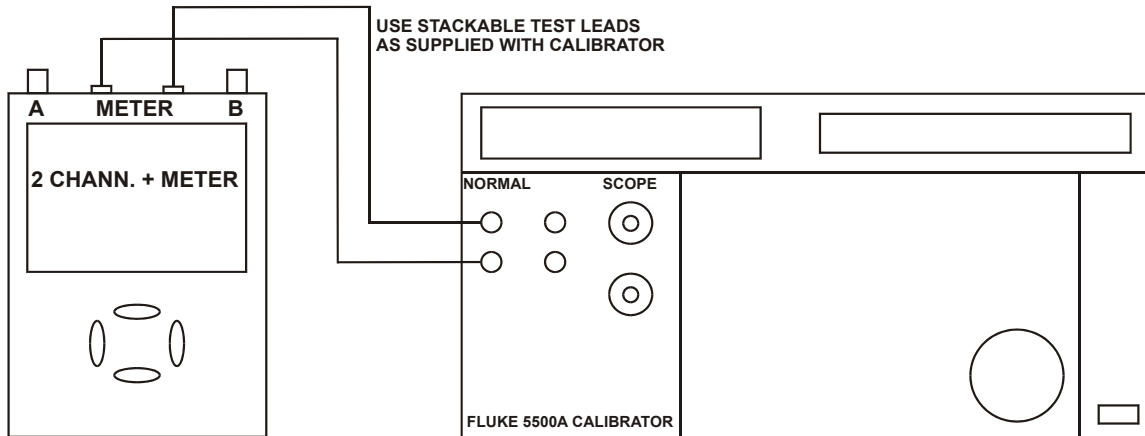

Figure 5-9. 5500A NORMAL Output to Test Tool Banana Input
2. Connect the test tool to the 5500A as shown in Figure 5-9.
1. Connect the red probe from the red Input A BNC to the banana jacks. See figure 5-9